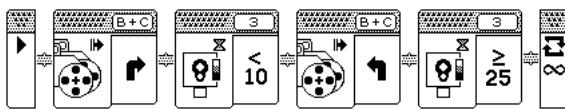
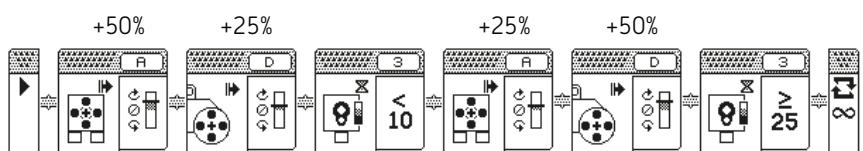
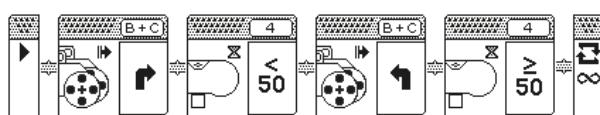
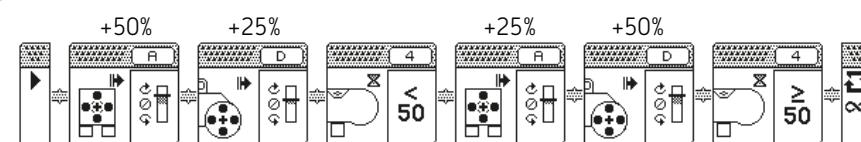

Figure 4-6: The Brick Program to follow dark lines
Figure 4-7: The improved Brick Program to follow dark lines
Figure 4-11: The wall-following program. The motor cables should be attached to ports B and C.
Figure 4-12: Alternative wall-following program. The motor cables should be attached to ports A and D.
Now let's make ROV3R follow lines using just Action and Wait blocks from the Block Palette of the Brick Program App. Remember from Chapter 3 that when using the Brick Program App, you can't choose to have your robot perform different actions depending on the sensor reading. So how can you get it to react to different sensor readings in a fast loop? Simple! You set the robot to turn right *until* (not *if*) it sees the line edge, and then you switch it to turn left *until* it sees the light ground, and so on, in a loop. You can use Wait blocks to detect the change in the sensor reading and Action blocks to make the robot steer. The program repeats forever, using the infinite repetitions setting in the final Loop block as shown in Figure 4-6 and described below. Four blocks do all the work!
To improve this behavior, switch the right motor to port D and the left motor to port A, and replace the Move blocks with Action blocks that control motors A and D separately: The Large Motor block will control the motor attached to port D, and the Medium Motor block will control the motor attached to port A. (These blocks can drive either the Large or Medium Motors and allow you to control the power separately.) By modifying the power levels, you'll be able to smooth out the robot's motion. You can see the improved Brick Program for line following in Figure 4-7.
As you can see, instead of using a single Move block to steer right, we use two Motor blocks. The left motor (port A) is set to turn faster than the right one (port D), which makes the robot proceed forward while steering slightly to the right. Similarly, we replace the second Move block that steers left with two Motor blocks that drive the right motor (D) faster than the left motor (A). The Wait blocks remain the same as in the previous program. The resulting motion is smoother because the motors are driven at different speeds and they never stop, as they did when commanded by the Move blocks in Figure 4-6.
Build ROV3R with the IR Sensor mounted as a wall-following sensor, as shown in Figure 4-10 (see “Wall-Following ROV3R” on page 32). The IR Sensor placed diagonally on the right side of your robot will see objects ahead of it. For the program, just replace the Wait Reflected Light Sensor blocks used in the line-following program (Figure 4-6) with Wait IR Sensor blocks to produce a program that looks like the one in Figure 4-11.
As in the line-following program shown in Figure 4-6, this wall-following program uses Move blocks to drive the motors attached to ports B and C, and the resulting movement is quite abrupt. To smooth out ROV3R's path, try the program shown in Figure 4-12. As in the program in Figure 4-7, you can use separate blocks to set the motors on ports A and D to run at slower speeds and thereby avoid stopping one wheel in order to turn.